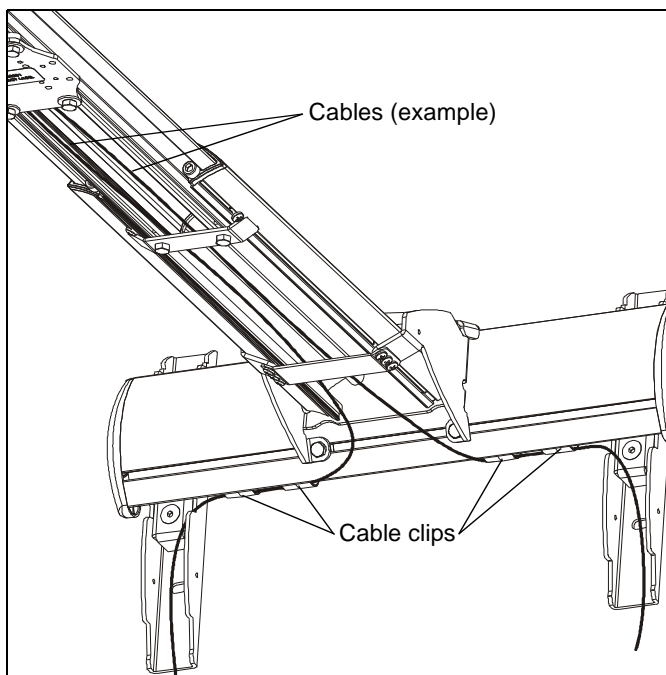

Figure 58
8. Route cables through cover mount, projector arm tunnel and into projector. (See Figure 58)